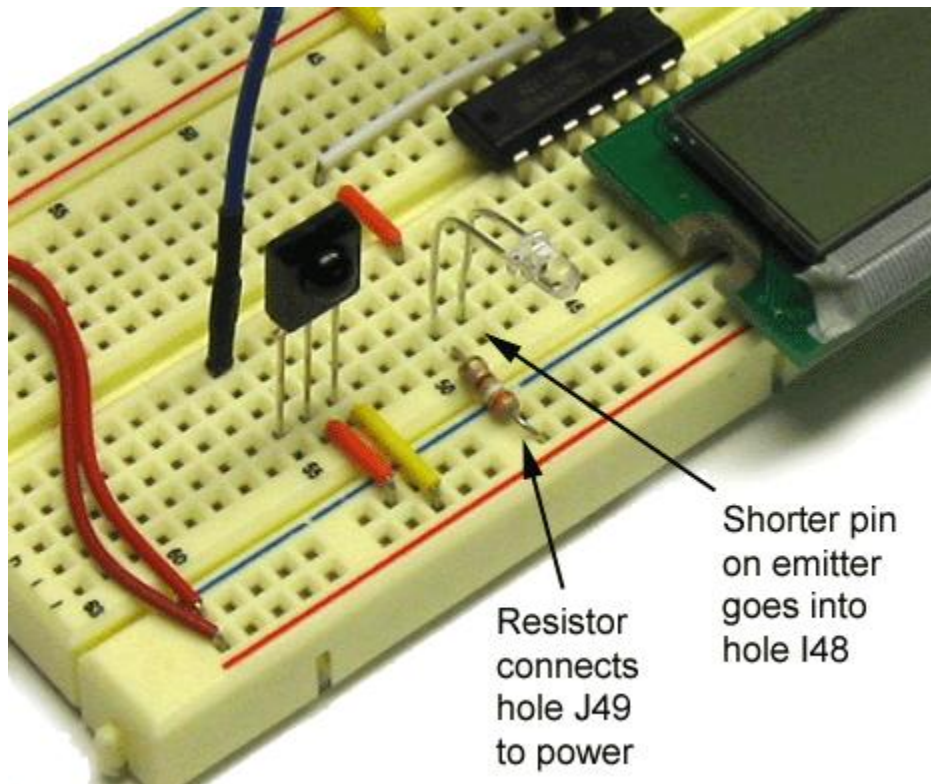

Figure 5. Installing the infrared transmitter.
6. Insert the infrared transmitter and a 390-Ohm resistor into the XBoard, as shown in Figure 5. **NOTE:** *The transmitter should face in the same direction as the infrared receiver. The transmitter should go in holes I48 and I49, and the resistor should connect hole J49 to power.*